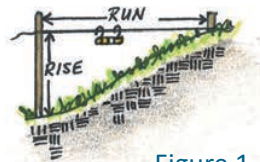

Figure 1
**STEP 1 – Measure the slope.** Measure the overall rise and run of the area in inches (Figure 1).